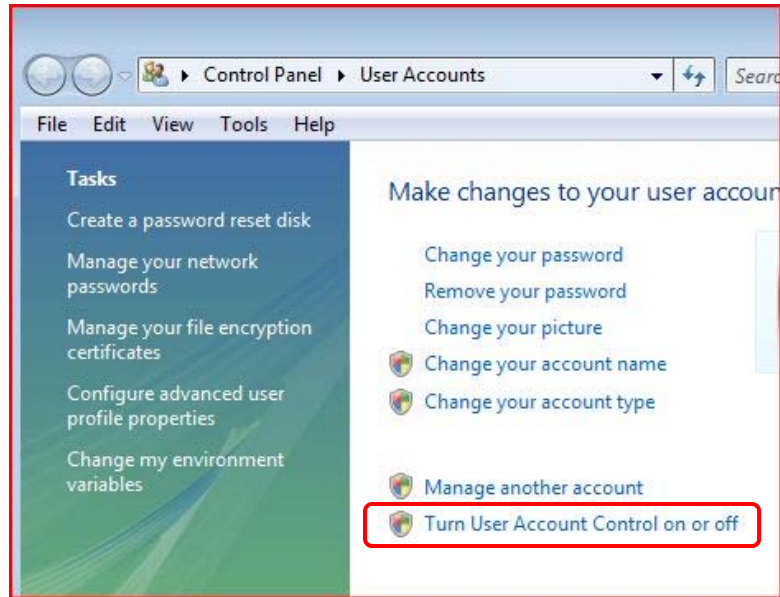

Figure II-1. User Accounts Window
- 2) Locate and double-click the **User Accounts** icon. The User Accounts window will open (Figure II-1).